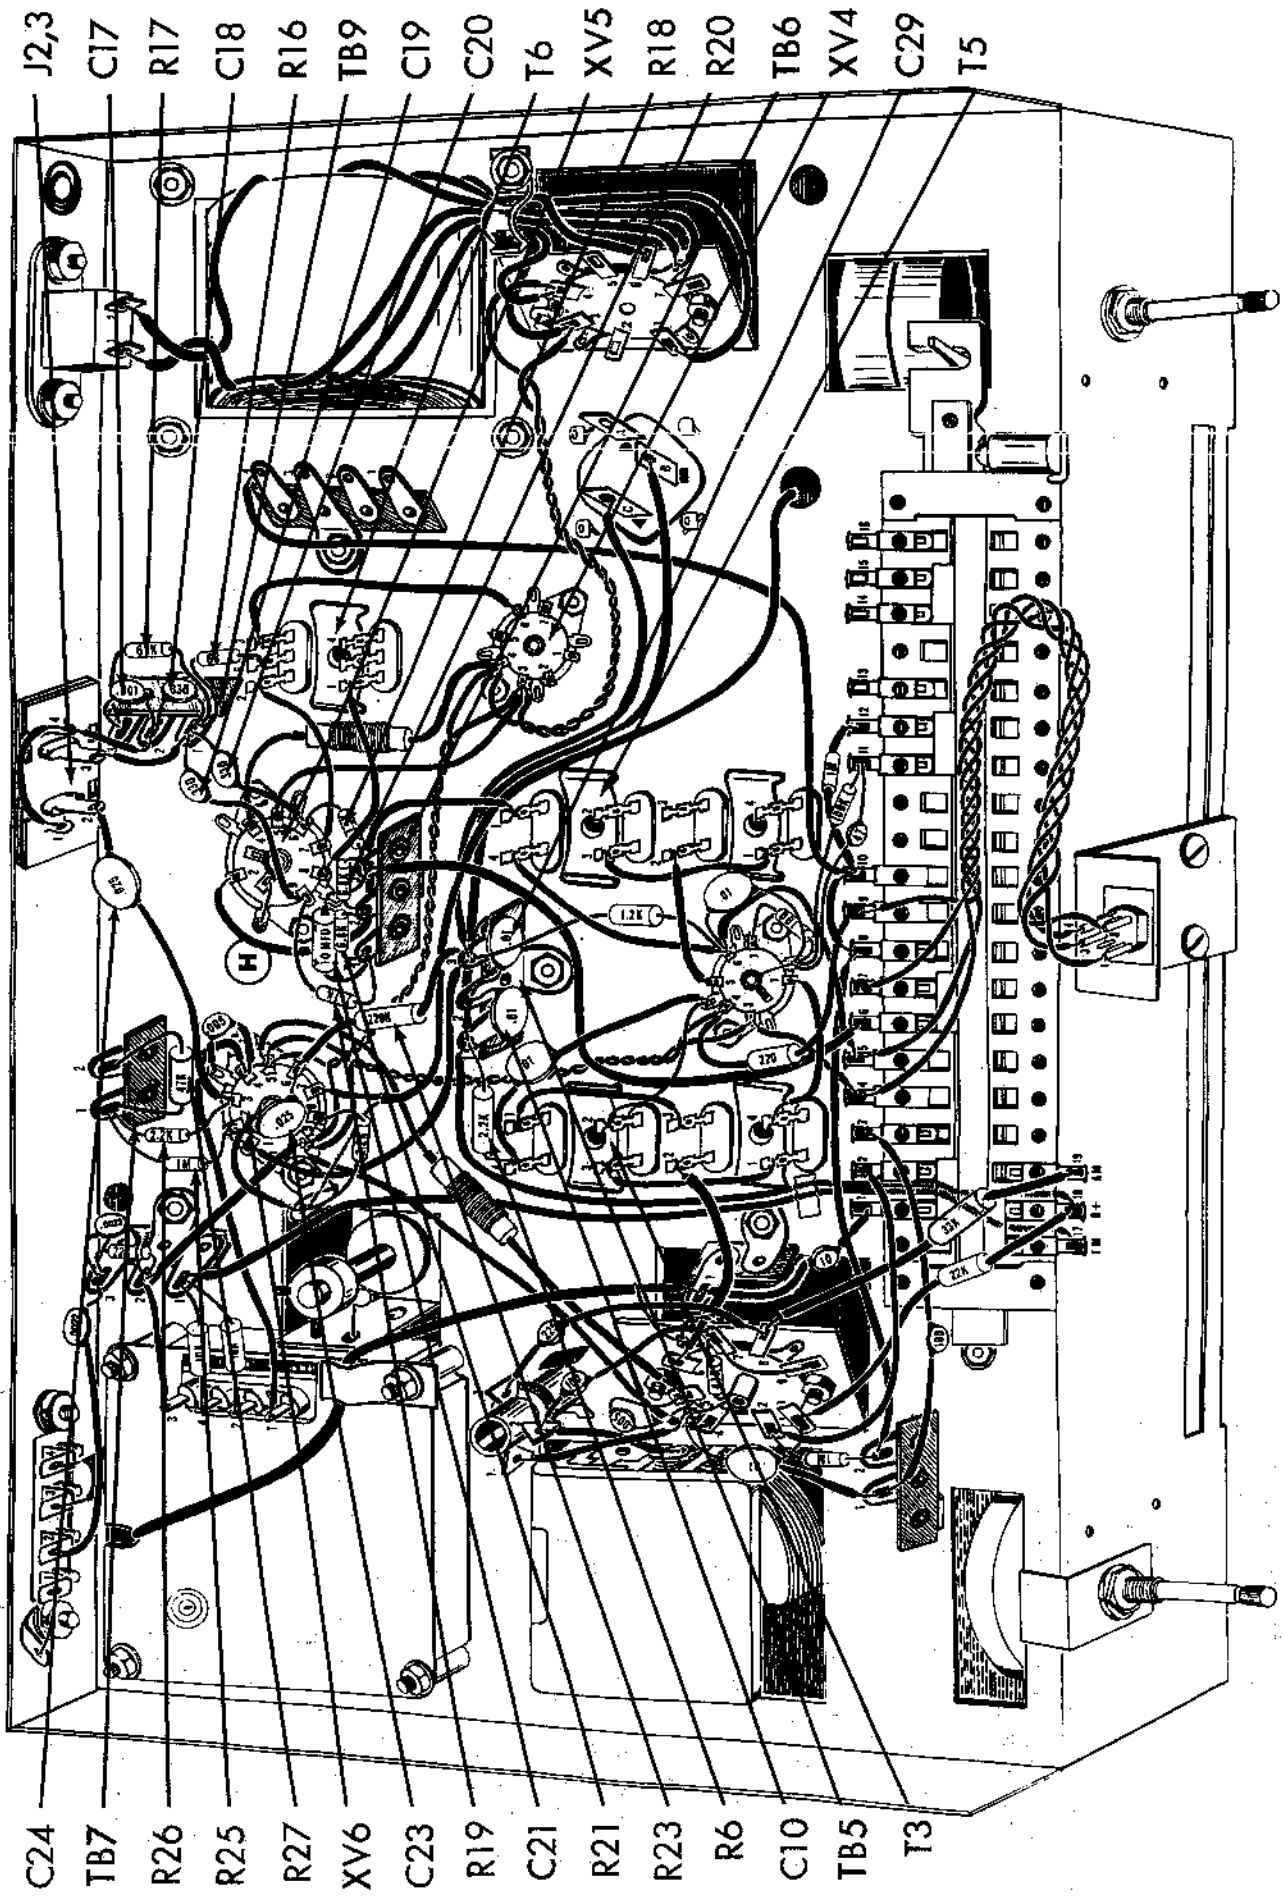

Fig. 8
- () 1. Fig. 8. Cut both leads on a 47K (yellow, violet, orange, silver) 1 watt resistor, R27, to 3/4". Connect from TB7-1 (C) to TB7-2 (S1). Dress the resistor close to the chassis.
- () 2. Fig. 8. Cut both leads on a 2.2K (red, red, red, silver) resistor, R26, to 1/2". Connect from XV6-3 (C) to TB7-1 (C).
- () 3. Fig. 8. Cut both leads on a 1M (brown, black, green, silver) resistor, R25, to 1/2". Connect from XV6-2 (C) to TB7-1 (S3).
- () 4. Fig. 8. Cut both leads on a .025 mfd (25K or 25,000 mmf) disc capacitor, C24, to 1". Cover each lead with a 3/4" piece of spaghetti. Connect from XV6-3 (S2) to J2, 3-2 (S1).
- () 5. Fig. 8. On the 220K (red, red, yellow, silver) 1 watt resistor, R23, cut one lead to 1/2" and the second lead to 1 1/4". Cover the longer lead with a 1" piece of spaghetti and connect to TB5-3 (C). Connect the remaining lead to XV6-6 (C). Dress the resistor close to the chassis.
- () 6. Fig. 8. Cut both leads on a .025 mfd (25K or 25,000 mmf) disc capacitor, C23, to 1/2". Connect from XV6-2 (S2) to XV6-6 (S2).
- () 7. Fig. 8. Cut both leads on a 2.2K (red, red, red, silver) 1 watt resistor, R6, to 1/2". Connect from T3-4 (S2) to TB5-1 (C). Dress the resistor close to the chassis.
- () 8. Fig. 8. Cut all leads on two .01 mfd (10K or 10,000 mmfd) disc capacitors, C10 and C29, to 1/2". Connect C10 from TB5-1 (S4) to TB5-2 (C). Connect C29 from TB5-2 (S2) to TB5-3 (S5).
- () 9. Fig. 8. Connect a 1 1/2" piece of black wire from J2, 3-1 (S1) to J2, 3-4 (C).
- () 10. Fig. 8. Connect a 1 1/2" piece of black wire from J2, 3-4 (S2) to TB9-2 (C).
- () 11. Fig. 8. Connect a 1 1/2" piece of white wire from J2, 3-3 (S1) to TB9-1 (C).
- () 12. Fig. 8. Connect a 1" piece of bare wire from the center lug on XV5 to ground lug "H" (S1) at XV5.
- () 13. Fig. 8. Push lugs XV5-1 and XV5-3 down to the center lug on XV5. Solder lugs XV5-1 and XV5-3 as well as the bare wire to the center lug on XV5.
- () 14. Fig. 8. Cut both leads on a 10mfd electrolytic capacitor, C21, to 3/4". Connect the positive (+) lead to TB6-1 (C) and the negative (-) lead to TB6-3 (C). Dress the capacitor close to the chassis.
- () 15. Fig. 8. Cut all leads on two 6.8K (blue, grey, red, silver) resistors, R20 and R21, to 1/2". Connect R20 from TB6-2 (C) to TB6-3 (C). Connect R21 from TB6-2 (S2) to TB6-1 (C).
- () 16. Fig. 8. Connect a 3 1/2" piece of white wire from XV5-2 (S1) to T5-1 (S1).
- () 17. Fig. 8. Cut both leads on a 1K (brown, black, red, silver) resistor, R19, to 1/2". Connect from XV5-9 (C) to TB6-1 (S3).
- () 18. Fig. 8. Cut both leads on a 1.5K (brown, green, red, silver) resistor, R18, to 1/2". Connect from XV5-6 (C) to TB6-3 (S4).
- () 19. Fig. 8. Connect a 1 3/4" piece of white wire from XV5-7 (S1) to T6-2 (S1).
- () 20. Fig. 8. Connect a 1 1/2" piece of white wire from XV5-8 (S1) to T6-1 (S1).
- () 21. Fig. 8. Cut one lead on the 330 mmf disc capacitor, C19, to 1 1/2" and the second lead to 1/2". Cover the longer lead with a 1 1/4" piece of spaghetti and connect to XV5-9 (S2). Connect the remaining lead to TB9-1 (C).
- () 22. Fig. 8. Cut one lead on the 330 mmf disc capacitor, C20, to 1" and the second lead to 1/2". Cover the longer lead with a 3/4" piece of spaghetti and connect to XV5-6 (S2). Connect the remaining lead to TB9-1 (C).
- () 23. Fig. 8. Cut both leads on a 68K (blue, grey, orange, silver) resistor, R17, to 3/4". Connect from TB9-1 (C) to TB9-3 (C).
- () 24. Fig. 8. Cut both leads on a 68Ω (blue, grey, black, silver) resistor, R16, to 1/2". Connect from TB9-1 (C) to T6-5 (S1).
- () 25. Fig. 8. Cut both leads on a 330 mmf disc capacitor, C18, to 1/2". Connect from TB9-1 (S6) to TB9-2 (C).
- () 26. Fig. 8. Cut both leads on a .001 mfd (1K or 1000 mmf) disc capacitor, C17, to 1/2". Connect from TB9-2 (C) to TB9-3 (C).
- () 27. Fig. 8. Connect a 2" piece of green wire from T6-3 (C) to XV4-6 (C).